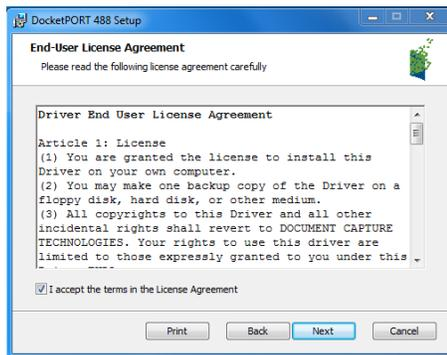

Fig. 3
- e) Check the EULA accept box then click “Next” (Fig. 3).